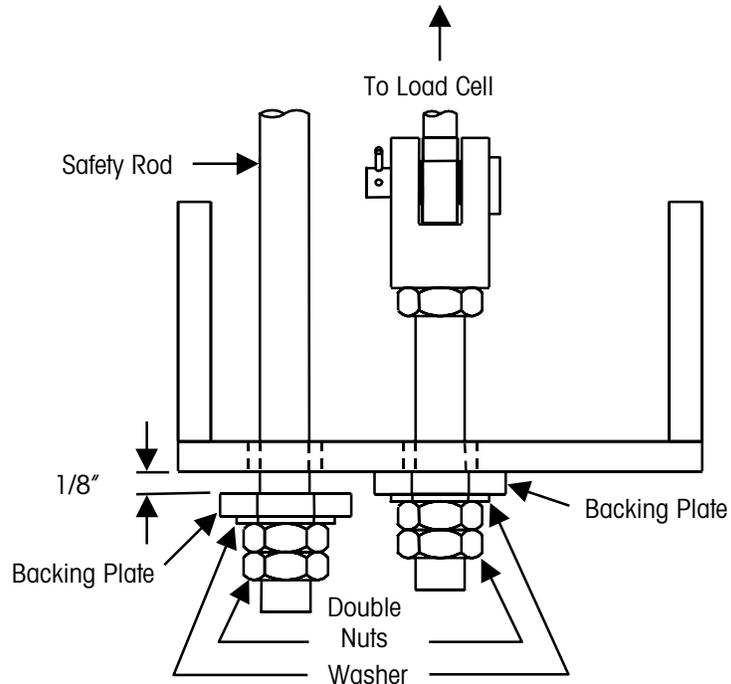

Figure 11-4: Weigh Module Assembly Attached to Lower Support Bracket
4. Install a safety rod next to each weigh module. Leave 1/8 inch clearance between the lower support bracket and the washer on the safety rod (see Figure 11-4).